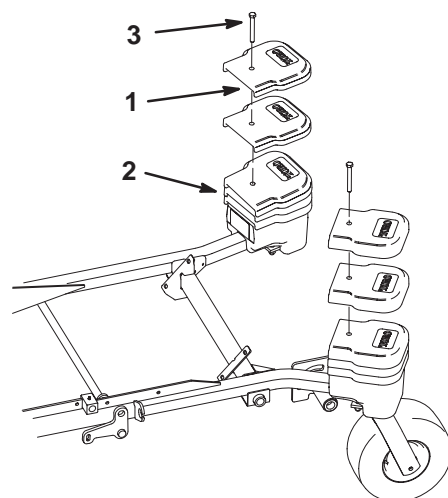

Figure 11
2. Place the top weights on top of the existing front caster weights (Fig. 11).
3. Secure the top weights with a bolt (1/2 x 6 inch) (Fig. 11).
2. Place the 2 top weights on top of the existing front caster weights (Fig. 11).
3. Secure the top weights with a bolt (1/2 x 5 inch) (Fig. 11).